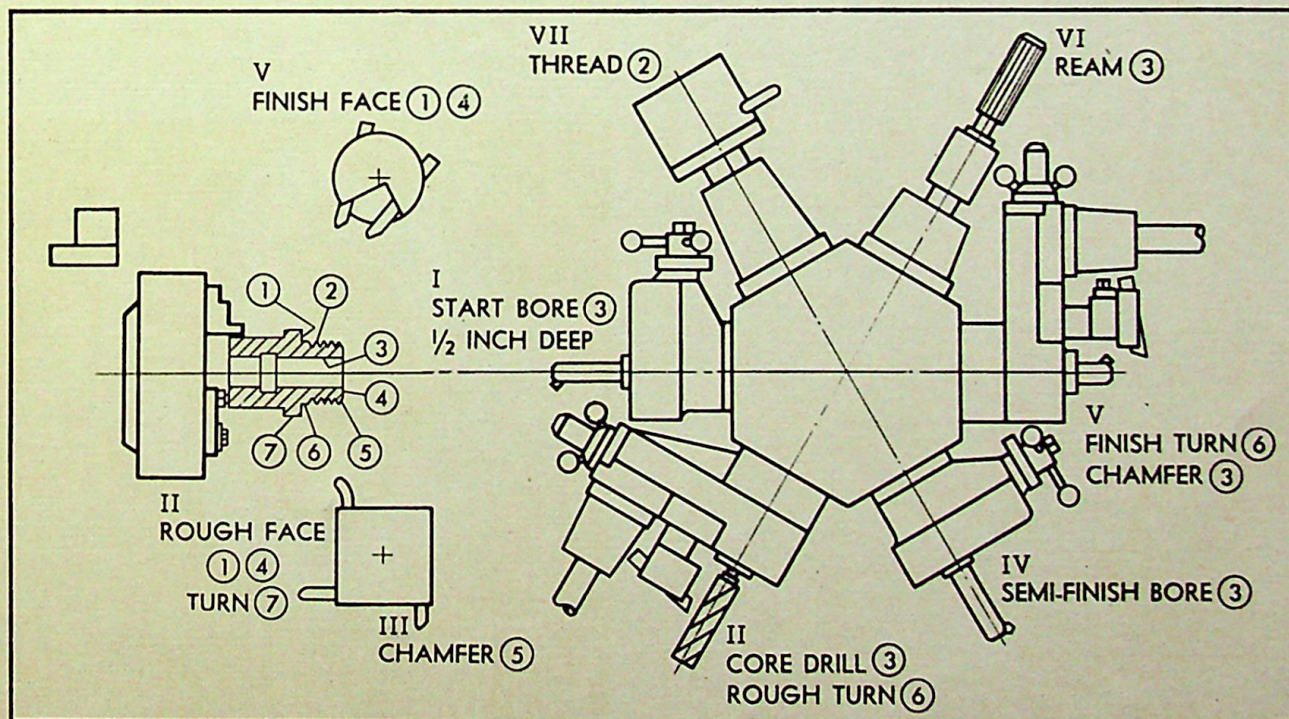

FIG. 30 First Chucking for Guide Sleeve
In the next operation (II) we core drill and rough turn from the hexagon turret, and rough face and turn from the square turret. The core drill, which is High Speed Steel, operates at approximately 60 feet per minute, and controls the speed to be used for operation II as shown in the setup, (Fig. 30). We turn the dial until a surface feet figure of approximately 60 feet appears in the window opposite the 1" diameter to be core drilled. In this case 61 appears opposite the 1" on the chart, and we insert number tab **2**.